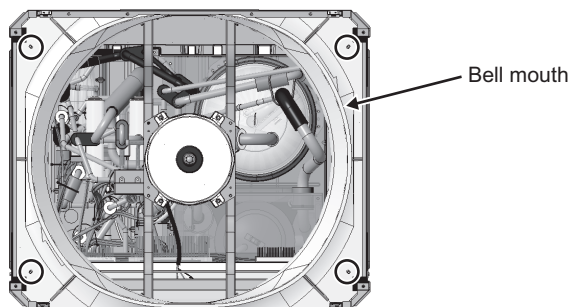

Fig. 31
- (8) Remove the bell mouth. (Four screws: Fig. 31)